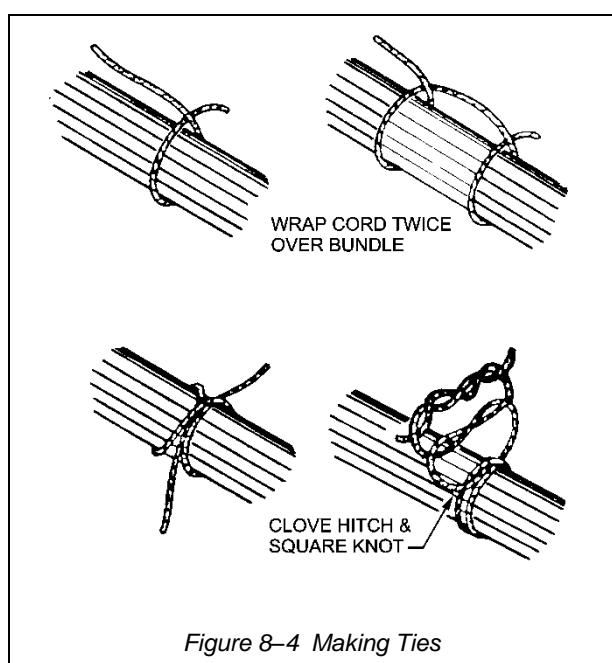

Figure 8-4 Making Ties
- Wrap cord around wire group or bundle, as shown in Figure 8-4.